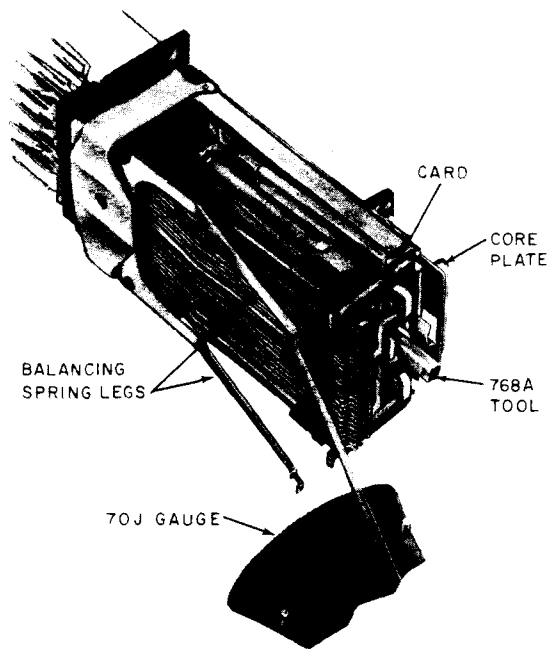
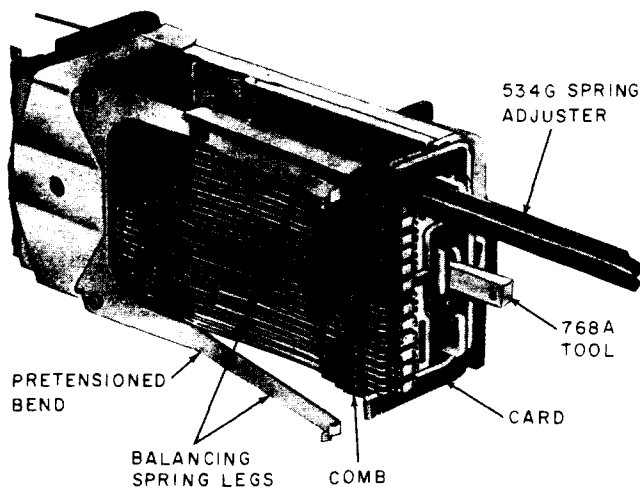

Fig. 14—Method of Checking Balancing Spring Tension
Fig. 15—Method of Adjusting Balancing Spring Tension—AL-Type Relay
- (4) For AL-type relays, measure the tension of the balancing spring legs as follows. Insert the tip of the 70J gauge between the two projections at the front end of the leg of the spring and move the spring toward the right until it touches the edge of the card as shown in Fig. 14. With the spring in this position, read the tension on the gauge. If there is considerable difference between the tension of the balancing spring legs, adjust the leg having the lower tension to a value approximately equal to that of the other leg using the proper spring adjuster as covered in (6), (7), and (8). If the requirements are still not met, increase or decrease the tension of both legs as required.
- (5) The legs of the balancing spring are pretensioned; therefore, do not attempt to remove the bends in the legs since this would make it impossible to obtain a satisfactory tension adjustment. Take care not to slide or draw the spring adjuster over a bend in a pretensioned spring.
- (6) To adjust the balancing spring legs for tension, use the ♦534J♦ spring adjuster for 0.018-inch springs and the 534G spring adjuster for 0.020- and 0.025-inch springs.
(7) Place the slotted portion of the proper spring adjuster on the leg of the balancing spring just in back of the two projections at the end of the leg. Slide the adjuster back until the end of the insulation on the handle is in line with the end of the spring. This will bring the slotted portion of the adjuster close to the pretensioned bend in the spring as shown in Fig. 15 and 16. With the adjuster in this position, bend the spring to the left to increase the tension while maintaining a pressure on the adjuster toward the right. This pressure on adjuster is necessary in order to avoid distorting the portion of the balancing spring leg to the rear of the pretensioned bend. If necessary to decrease the tension to meet the requirements, bend the spring to the right while maintaining a pressure on the adjuster toward the left. Take care when adjusting the legs of the spring to adjust them in line with their movement and to avoid